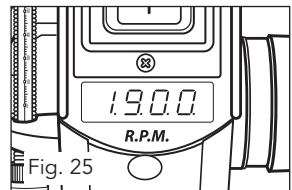

Fig. 25
2. The set speed is shown on the digital display (16) in revolutions per minute (Fig. 25).